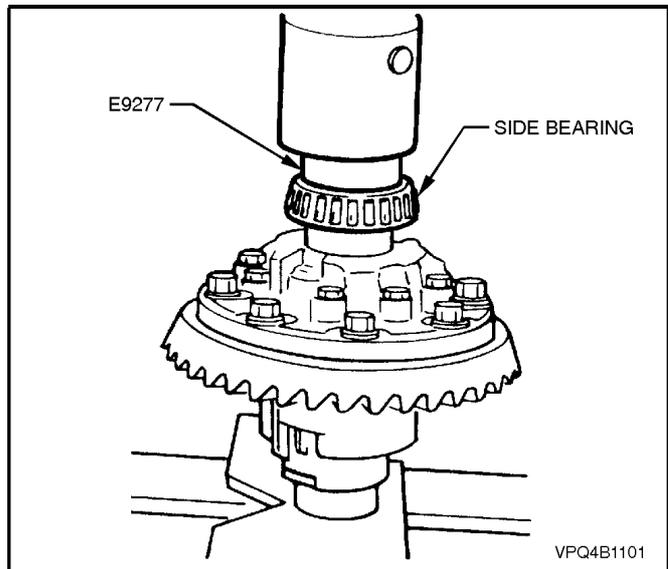

Figure 4B-183
21. Continue rear axle assembly, proceeding from 'Differential Case Side Bearing Pre-Load Setting', refer Figure 4B-141, in this Section.